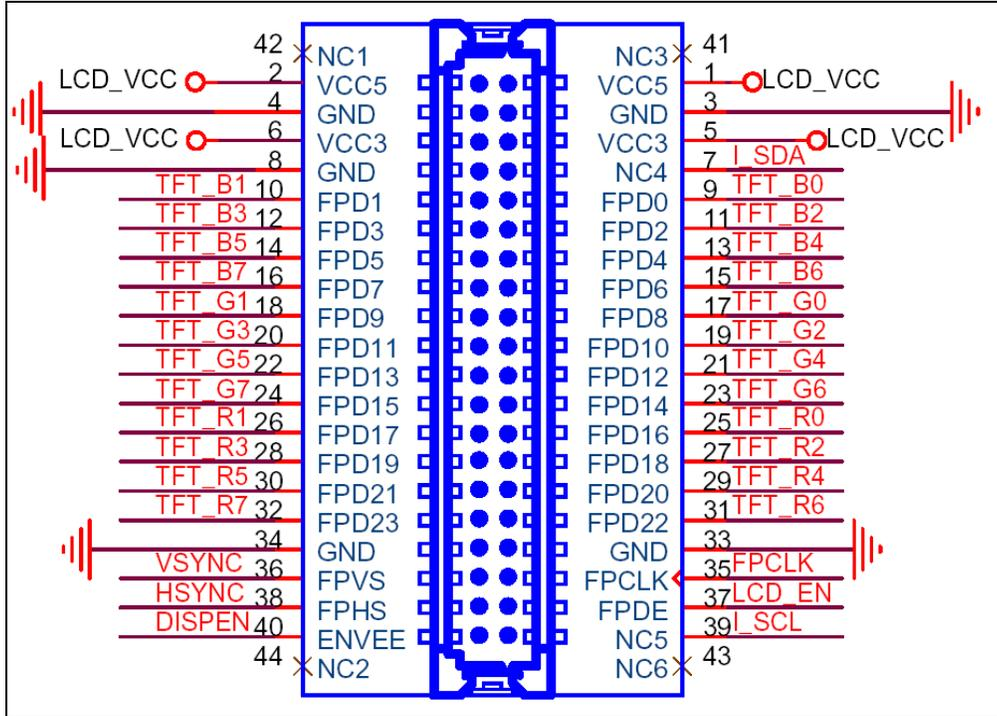

Figure 4-25: TFT LCD TTL Connector Pinout Locations
- CN Location:** See **Figure 4-25**